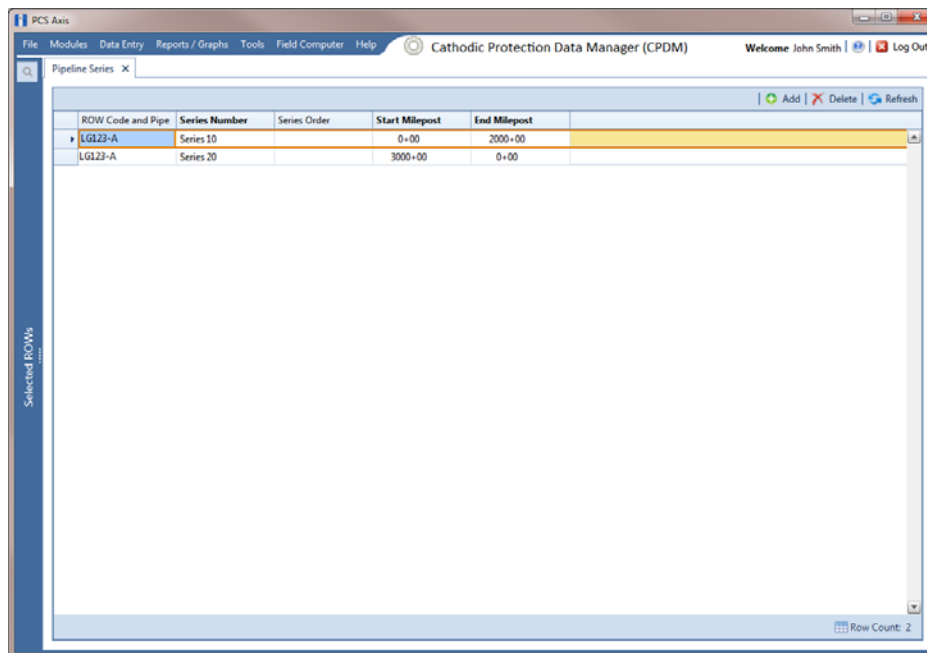

Figure 3-48. Pipeline Series
- 8 Click  **Save** to close the dialog box and add the record in the *Pipeline Series* grid (Figure 3-48).
In the example shown in the next figure (Figure 3-48), *Series 10* was added for the original pipeline segment with a start and end milepost of 0+00 and 2000+00 respectively. *Series 20* was added for the pipeline extension. Because the mileposts are in reverse order in *Series 20*, the *Pipeline Series* is set up with a start and end milepost of 3000+00 and 0+00 respectively.